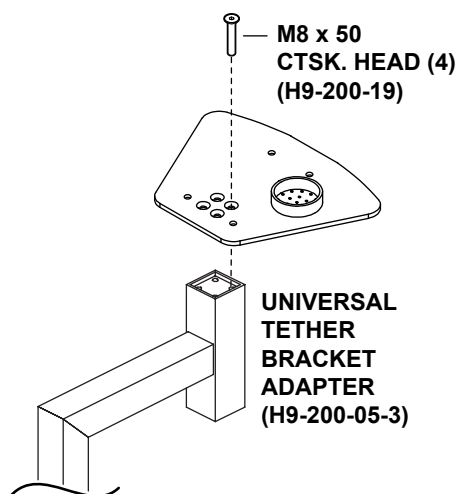

Figure 2. Universal tether bracket adapter
2. Attach the bracket adapter to the bottom plate (Figure 2). Align the four holes at the top of the adapter with the four holes on the bottom plate. Use a 5mm Allen wrench to secure the adapter to the plate with four M8 x 50 countersunk screws.